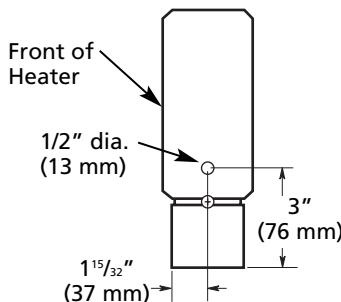

Figure 11 – End Cap Drill Pattern
5. Connecting power supply cables may be routed from heater to heater by drilling a 1/2-inch (13 mm) diameter hole in the end caps for the heaters that fit together. See Figure 11. To prevent possible damage to internal heater wiring, all drilling of end caps must be done with end caps removed from heater.